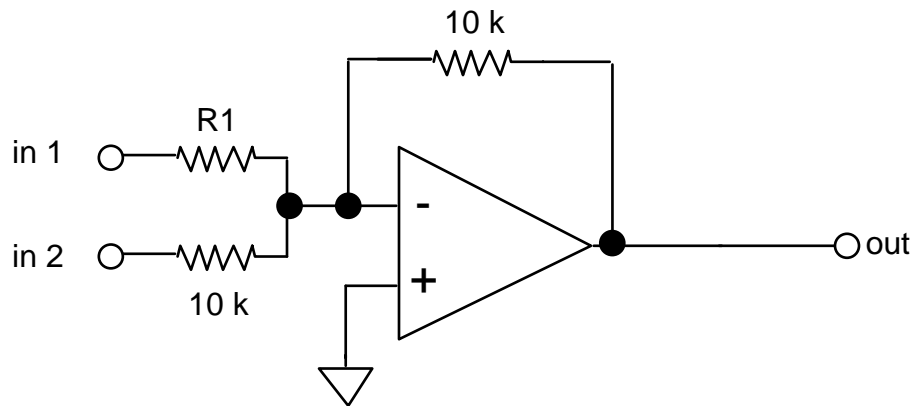

Figure 7-5 Summing Amplifier
- ☛ Build the circuit shown in Figure 7-5. Choose  $R_1 = 10\text{ k}$ .